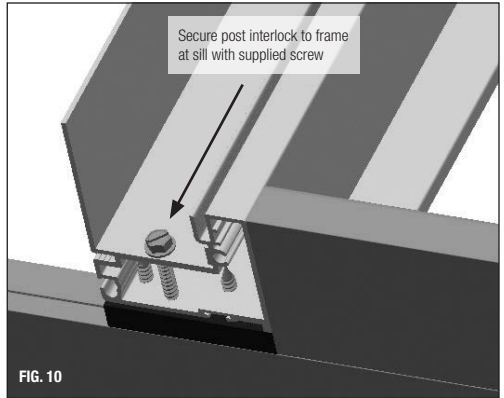

FIG. 10
- E) Align the pre-drilled hole on the post interlock (Fig. 9) to the holes on the exterior of the pocket side of the frame (the post interlock should line up flush with the frame nosing at the head). Secure the post interlock to the frame sill using the provided screw in the “Post interlock” screw package. (Fig. 10) **Do not over-tighten screws. Over-tightening the screws will cause the post interlock to collapse at the ends.**